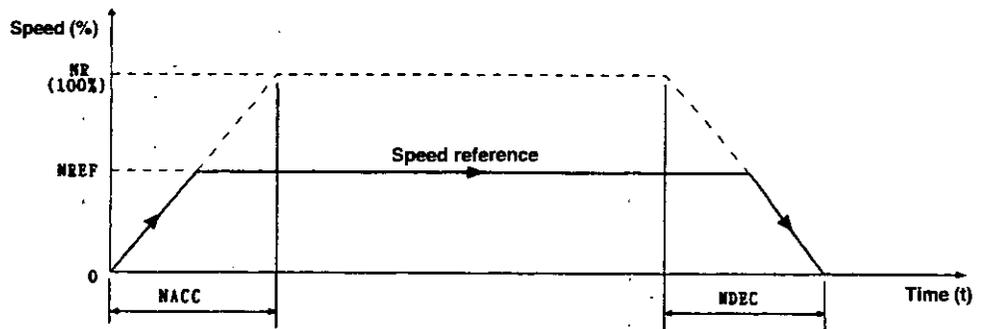
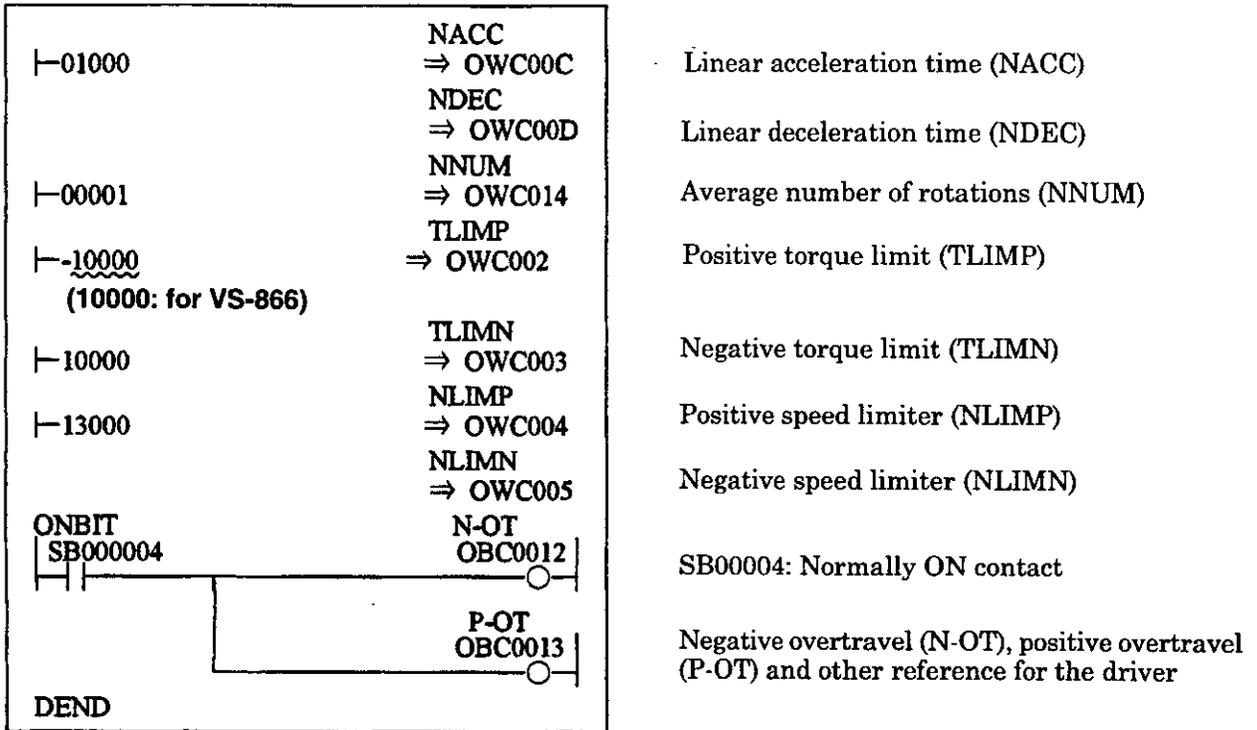
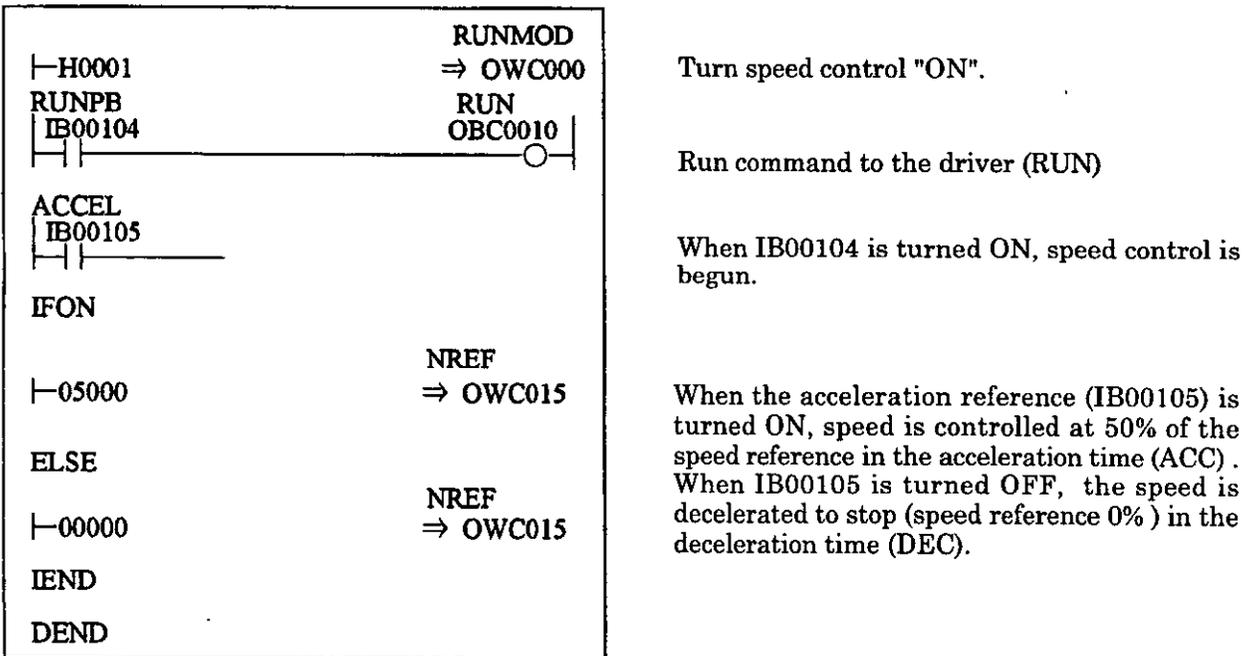

Fig. 3.6 Speed Pattern
Fig. 3.7 Initial Settings (DWG A01)
Fig. 3.8 Run command (DWG H01)
- In Fig. 3.6
In the example of Fig. 3.6, the SERVOPACK at the number 1 axis of the module number 1 is used. If the module number and the axis number are different, refer to 1.3 "Module Number and Servo Parameter Register Number" and change the register number. For details of the register (OW□□□□), refer to Chapter 5 "Servo Parameters".
Figs. 3.7 and Fig. 3.8 are examples of using a programming language to show speed pattern in Fig. 3.6.
In the example of Fig. 3.7, the user program is created in DWG.A and settings are initialized, but after setting initial values in the Fixed Parameter screen of the CP-717, by pressing the "Save" key, the initial values of the servo parameters can be stored. Stored value are automatically set in the servo parameters when the CP-9200SH is turned ON. Thus, this is the same as the method of creating a user program in DWG.A and initializing settings. The method of setting initial values in the servo parameter setting screen and saving them is recommended.
The example of Fig. 3.8 is extremely simplified, but actually each register can be freely controlled with a user program.